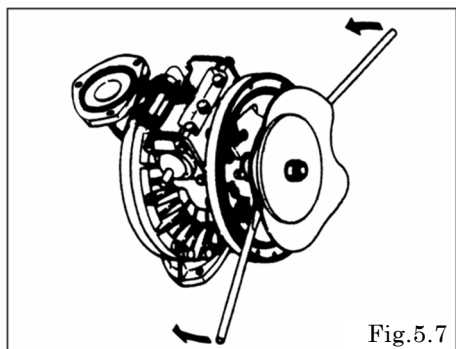

Fig.5.7
- Grip the inside center disk using crowbars and draw it to the opposite side, then turn the diaphragm over. <Fig.5.7, 5.8>